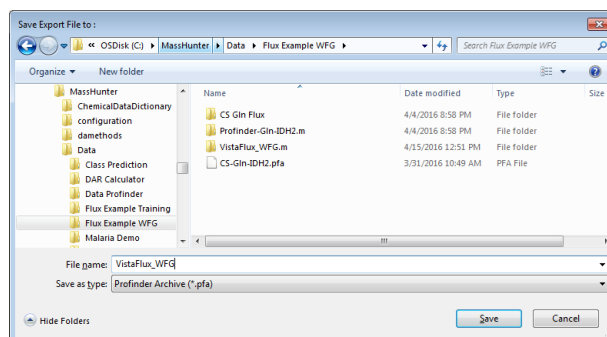

Figure 58 Save Export File to dialog box used to save your Profinder Archive
- Navigate to the folder to save your project in the **Save Export File to** dialog box (Figure 58).